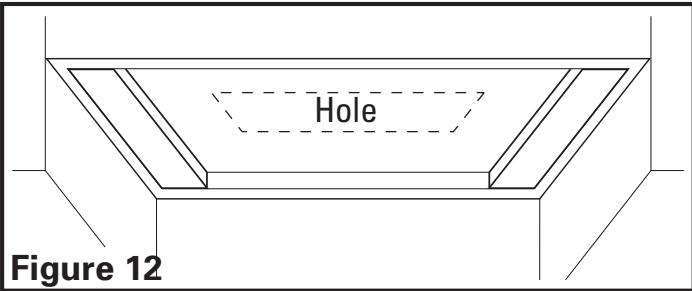

Figure 12
- Mark the location where the outlet adapter (available separately) will be located on the cabinets and cut a hole approximately 1" larger on all sides than the outlet adapter (Figure 12).